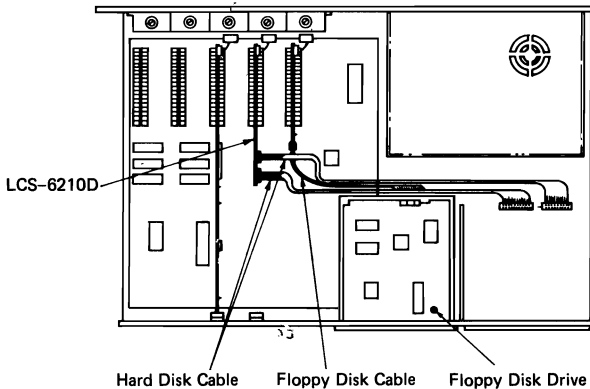

Figure 6. Routing of Cables for Internal Mounting
- A. Route cables around the other expansion cards, then around the back of the left-hand floppy disk drive, and into the area behind the hard disk drive (See Figure 6). Carefully bend the cables as necessary to allow access to the rear of the hard disk drive.